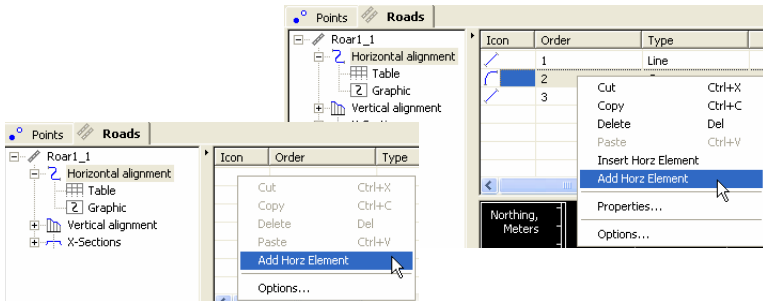

Figure 9-34. Adding Horizontal Element Through the Right Panel
- In the right panel, right-click in an empty line or the selected element and click **Add Horz Element** (Figure 9-34).